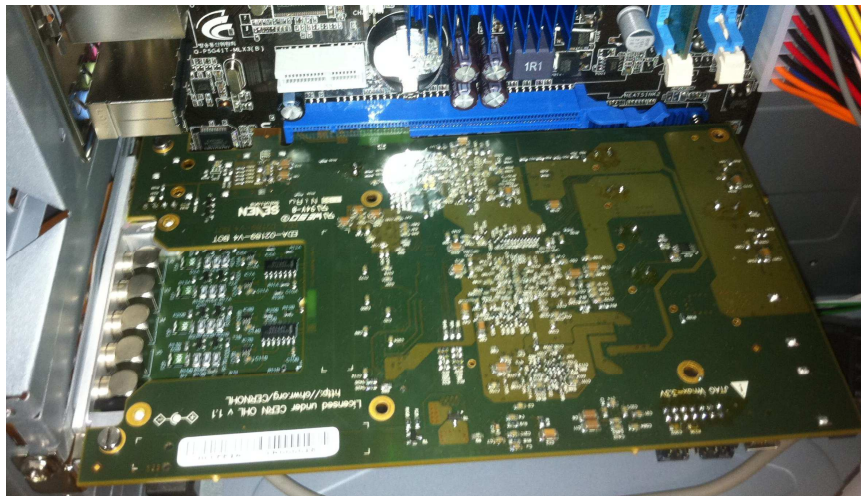

Figure 3: SPEC board inserted into a PCIe slot
- 3) Confirm that the computer is switched off (cord unplugged or power-supply switch off) and plug the assembled SPEC board into a PCIe slot as indicated in Figure 3.